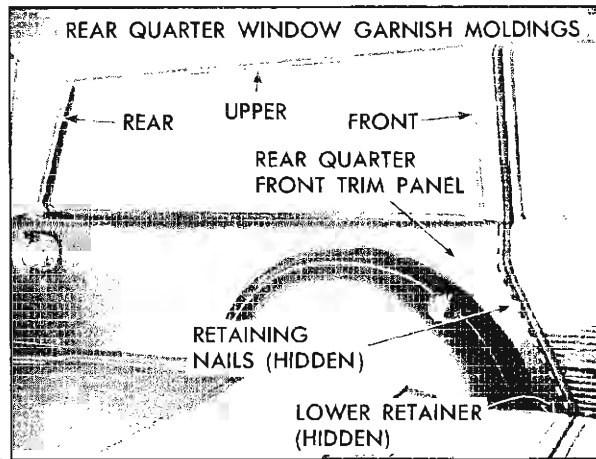

Fig. 4-13 Rear Quarter Trim—Station Wagon
6. Lift panel upwards to disengage from quarter inner panel, and remove assembly from body (Fig. 4-13).
3. Lift panel slightly upward to disengage from quarter inner panel and rearward to disengage from rearward section of rear quarter front trim panel (Fig. 4-13).